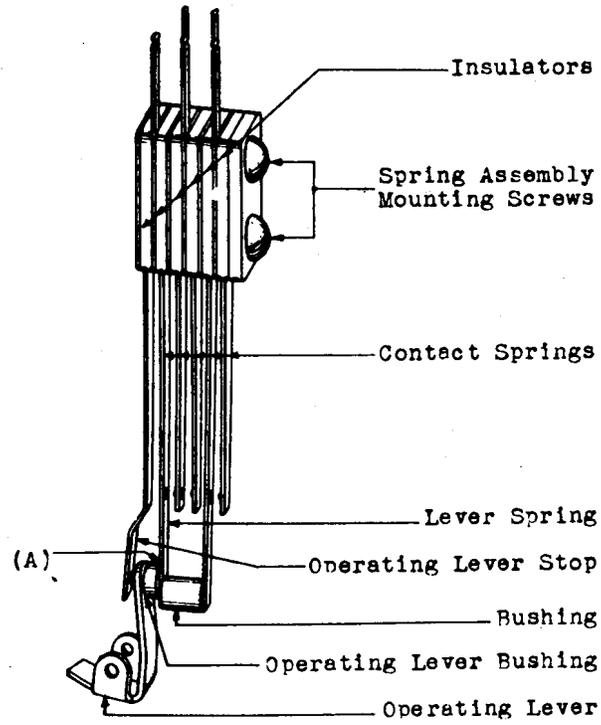

Fig. 5 - Spring Assembly - Internally Adjusted Dashpot Relay
- 2.09 Operating Lever Clearance - Fig. 5(A) - (Internally Adjusted): With the operating lever against the operating lever stop the clearance between the operating lever bushing and the lever spring shall be